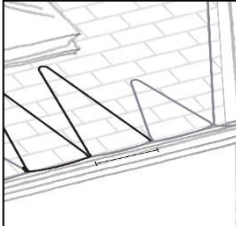

FIGURE 3: Triangle pattern near sky light
**Pattern for the sky lights:** Problem sky light areas are also treated with the “triangle pattern” approach. However, the height of the triangles may need to be greater than those along the roof line. Increase the triangle height so that it extends to one shingle row (5½ inches) below the sky light. The triangle base is maintained at 15 inches (see Figure 3).